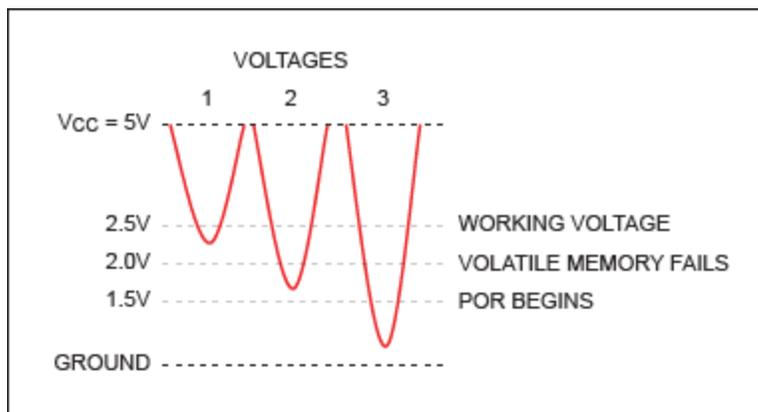

Figure 3. Momentary voltage drops and the effects seen on volatile memory. The voltages chosen here are arbitrary and do not reflect any specific IC design.
If poor timing and timing errors make a POR circuit fail, then what is good timing, or at least preferred timing? Let's take as an example a part like a digital-to-analog (DAC) or a digital potentiometer with nonvolatile (NV) memory. We set the supply at 5V and three arbitrary voltages to explain the various failure modes (**Figure 3**). From this, we consider time and how to make a POR work safely.
It is apparent from Figure 3 that drooping voltage 1 has no effect on the register settings. The voltage has not gone below the 2V level where the memory is lost. Voltage 2 does drop below the 2V line and the memory is lost; as the voltage rises again, the volatile registers contain random data. Finally, the volatile memory for voltage waveform 3 is lost as it passes through 2V and continues below 1.5V. Then as the voltage rises through 1.5V, the POR starts, the volatile memory is refreshed from the NV memory, and the part operates normally.
Because an IC designer must try to accommodate any number of differing power-supply starting slopes in conjunction with noise, hysteresis is a good thing. So with the example in Figure 3, as the voltage rises above 1.5V we might set a latch with hysteresis. This hysteresis would keep the latch set as long as the voltage stays above 1.3V. This voltage, however, is not high enough yet to make operation dependable, so we wait until the voltage rises through 2.5V again with hysteresis. At this point, we want
Can we confuse the POR circuit and cause it to malfunction? Yes, as we illustrated in Figure 3 above. Further, and much worse, is it possible to trick the circuit and actually write garbage into the NV memory? Yes, and this is not a frivolous or fanciful experiment because we do not know what the customer’s power circuit might do, or be expected to do. In fact, we have heard of managers who turn on and off the power as rapidly as possible in an effort to detect some failure. Actually, this is not a bad thing to do, as it might cause a circuit to fail sometimes. Nonetheless, this rapid on/off exercise has limited value because it tests for only one sequence of switching. There might well be other untested sequences that would cause a POR failure. In an ideal world, the POR circuit protects all the circuits until the power is stable and allows operation to resume.
This is just the sort of complex situation where Murphy's Law, that anything bad can and does happen, at the worst time, seems to strike. But time (yes, this is wordplay here, given the importance of "time" for a POR circuit) is on our side...in most cases. Recall Figure 3. Let's try to prevent the NV write. Assume that we have a 1ms safe window to stop the NV write if, that is, it accidentally starts at the wrong time. First, as the voltage rises above 1.5V, we set the write latch to "off," even though we might not have sufficient voltage to accomplish this reliably under all conditions. Second, as the voltage crosses 2.5V, we again set the write latch to "off." Wow! That was easy to solve, or was it? If the voltage passes 1.5V and then drops to 1.4V so the POR hysteresis indicates that POR has started, the write latch is set to "off." However, if the voltage drops to 1.4V and the write latch is set to "on," we could be in trouble. Well, that is actually fine because we catch it at the 2.5V point. But is this always the case? While this is normally true, suppose that the power supply takes a long time to charge its capacitors and the time between 1.5V and 2.5V is 2ms. We write to the NV memory. What if the power supply normally comes on fast enough to prevent the write, but just as the power is coming up a motor in the plant momentarily drops the AC line voltage? A memory write could appear randomly.